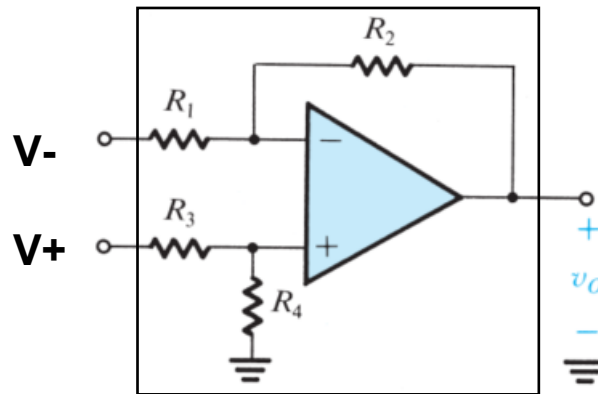
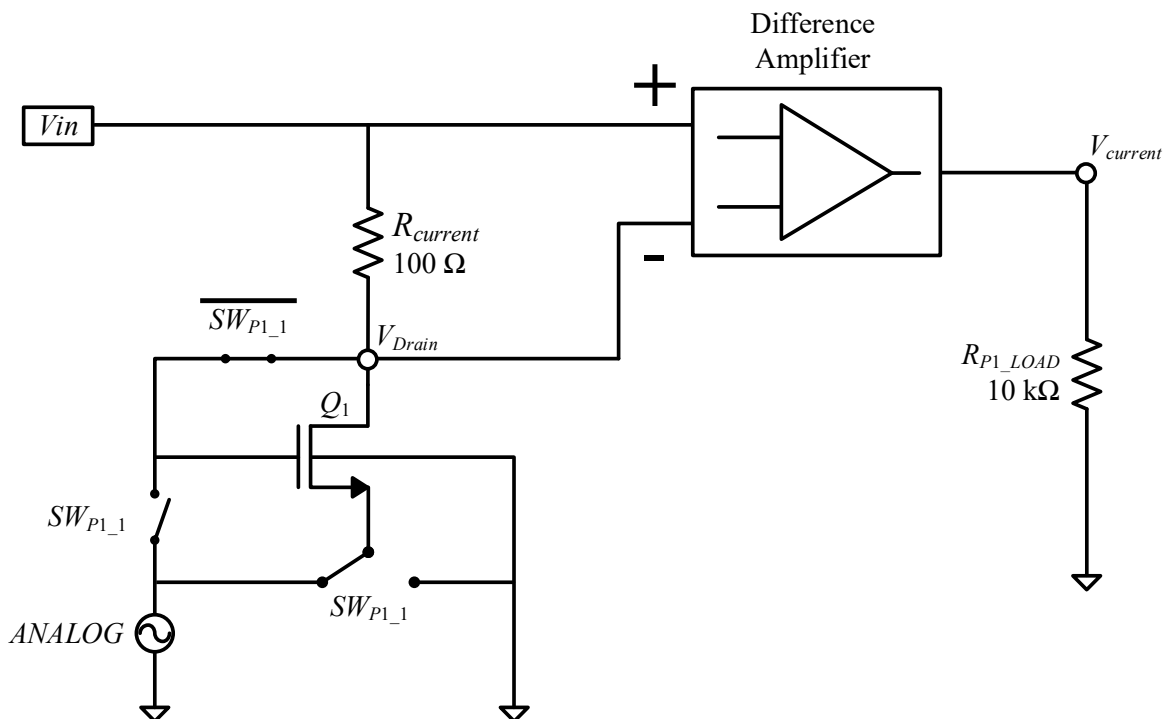

Fig. 4: Differential Amplifier.
Fig. 5: I-V characteristic measurement circuit.
A differential amplifier circuit is shown in Fig. 4. The configurable circuit shown in Fig. 5 is used to measure the I-V characteristics of a single NMOS transistor,  $Q_1$ . A difference amplifier with a gain,  $A$ , of 2 V/V is used to measure the current in the MOSFET by measuring the current through a resistor,  $R_{current}$ . The output of the difference amplifier,  $V_{current}$ , is proportional to the drain-to-source current,  $i_{DS}$ , according to the relationship:
- E1 As shown in Fig. 4, you should set up the Difference Amplifier with a **gain of 5** using MCP6002 op-amp. (Use  $V_{DD} = 5\text{ V}$ ,  $V_{SS} = 0\text{ V}$ ,  $1\text{ k}\Omega$  and  $5.1\text{ k}\Omega$  resistors to build the circuits.)